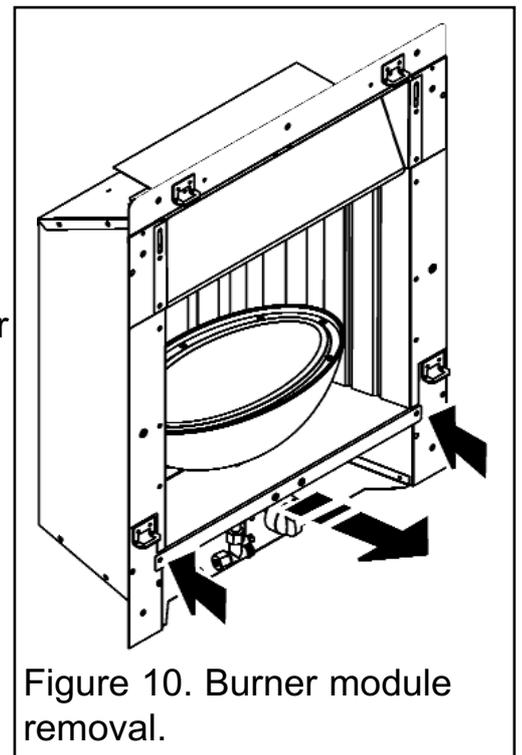

Figure 10. Burner module removal.
2. Remove the two screws to the side of the burner assembly (See figure 10).